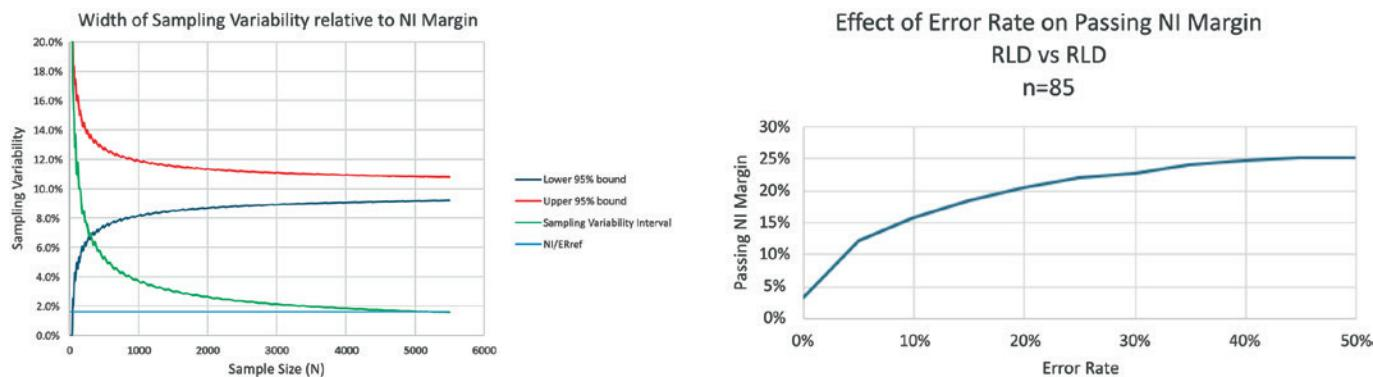

Figure 1: Contribution of sample size to sampling variability.
By applying rigid clinical frameworks to human factors validation, there is a risk of complicating approval processes for safe, effective products and delaying patient access to affordable treatments. For example, a human factors study requires 85 users to pass a non-inferiority (NI) margin of 16% at 95% power – a large sample size. Sampling variability often dominates the NI margin, leading to a high false negative rate. Adapting continuous data methods to small sample sizes requires a larger NI margin or more participants, as shown in Figure 1, which illustrates the relationship of sampling variability to the NI margin, as well as the ratio of the NI margin to the reference error rate (NI/ERef).